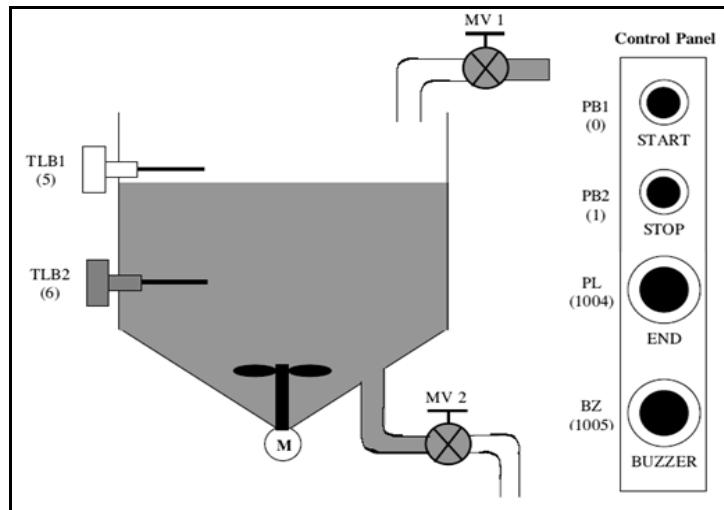

Figure 4(b) / Rajah 4(b)
- CLO2 b) Construct a ladder diagram for the control system in Figure 4(a) that shows a filling and production control system. The operation of the system is when the push-button start (PB1) is pressed, MV1 valve will open and the liquid will flow into the tank. At the same time, the blender motor begins function. When the liquid passes TLB2 and hit the TLB1, MV1 valve will shut off and the blender motor will stop. The valve MV2 will be open and fluid will flow out of the tank. MV2 will close when the liquid level was below the TLB2. Once the process is repeated four times, the END indicator (PL) will turn ON. The process of filling and production of liquid at the tank will stop even if PB1 is pressed. The input and output use for the system is in Table 4(b) below.